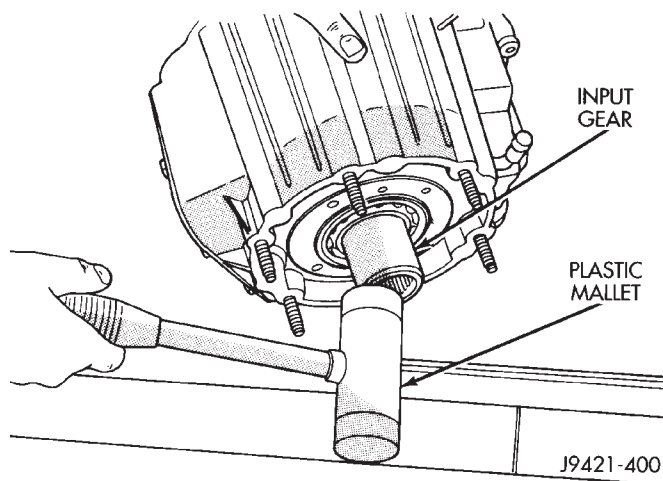

Fig. 36 Starting Input Gear Out of Bearing
(23) Tap input gear out of bearing with plastic mallet (Fig. 36).